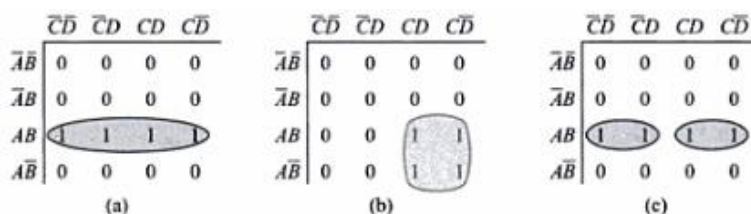

Figure 3.13: Example of quads
- A quad is a group of four 1s that are horizontally or vertically adjacent. It eliminates 2 variables and their complements (Figure: 3.13).